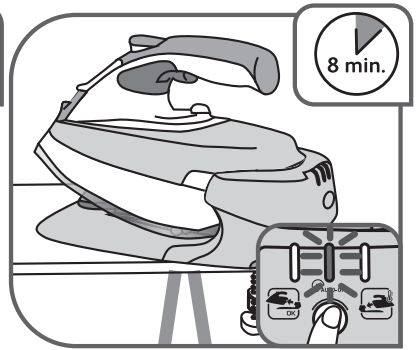

Fig. 16*
- Flashing orange light (according to model): Auto-Off function activated (see the section “Auto-Off safety”) – **fig.16**.